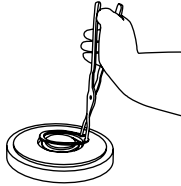

FIG 1
1. To replace the nose roller bearing, firstly remove circlip using a pair of straight circlip pliers Fig 1.